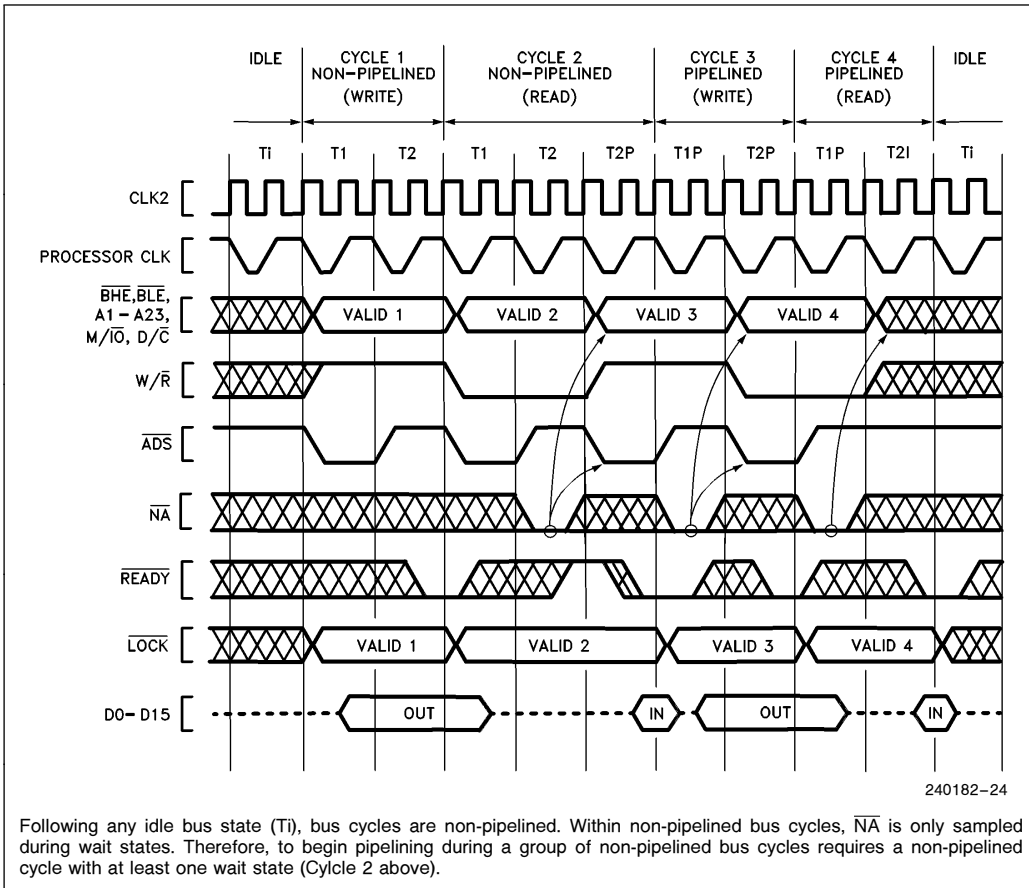
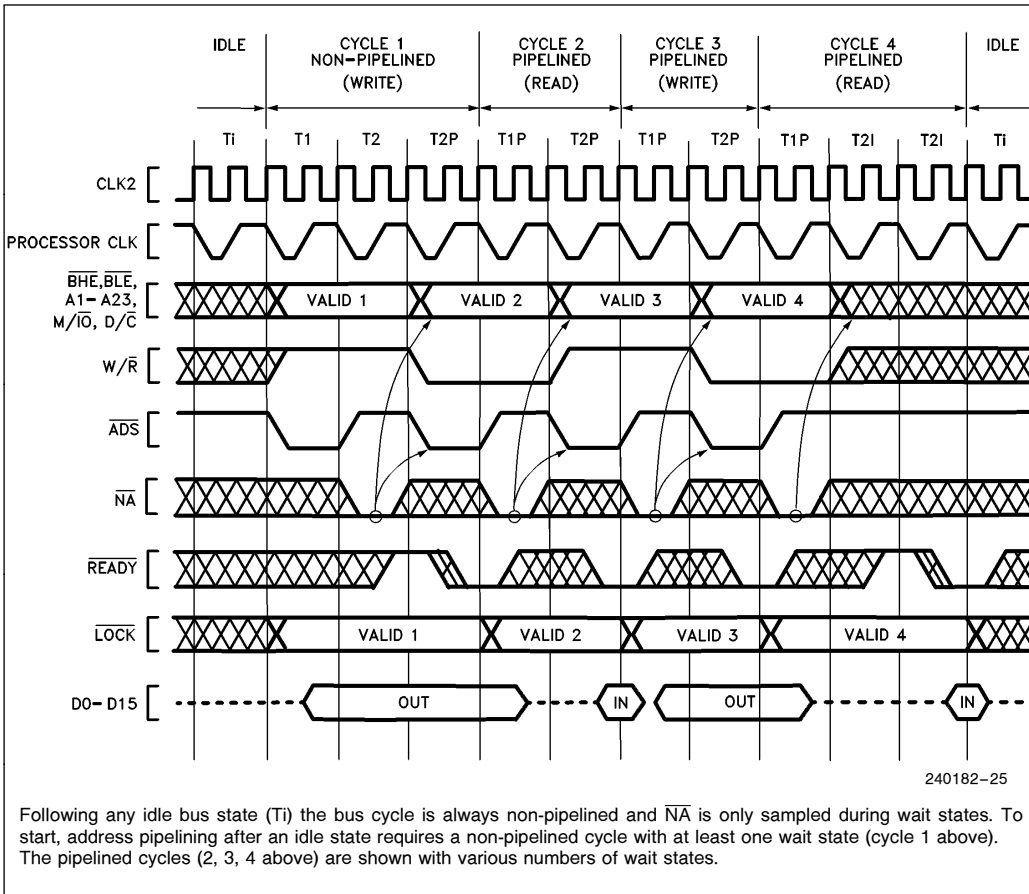

Figure 4.9. Transitioning to Pipelining during Burst of Bus Cycles
Figure 4.10. Fastest Transition to Pipelined Bus Cycle Following Idle Bus State
Once a bus cycle is in progress and the current address has been valid for at least one entire bus state, the $\overline{\text{NA}}$ input is sampled at the end of every phase one until the bus cycle is acknowledged. During non-pipelined bus cycles $\overline{\text{NA}}$ is sampled at the end of phase one in every T_2 . An example is Cycle 2 in Figure 4.9, during which $\overline{\text{NA}}$ is sampled at the end of phase one of every T_2 (it was asserted once during the first T_2 and has no further effect during that bus cycle).
1. The next address and status may appear as early as the bus state after \overline{NA} was sampled active (see Figures 4.9 or 4.10). In that case, state T2P is entered immediately. However, when there is not an internal bus request already pending, the next address and status will not be available immediately after \overline{NA} is asserted and T2I is entered instead of T2P (see Figure 4.11 Cycle 3). Provided the current bus cycle isn't yet acknow-
2. Any address and status which are validated by a pulse on the 80376 \overline{ADS} output will remain stable on the address pins for at least two processor clock periods. The 80376 cannot produce a new address and status more frequently than every two processor clock periods (see Figures 4.9, 4.10 and 4.11).
The transition to pipelined address is shown functionally by Figure 4.10, Cycle 1. Note that Cycle 1 is used to transition into pipelined address timing for the subsequent Cycles 2, 3 and 4, which are pipelined. The \overline{NA} input is asserted at the appropriate time to select address pipelining for Cycles 2, 3 and 4.
Sampling begins in T2 during Cycle 1 in Figure 4.10. Once \overline{NA} is sampled active during the current cycle, the 80376 is free to drive a new address and bus cycle definition on the bus as early as the next bus state. In Figure 4.10, Cycle 1 for example, the next address and status is driven during state T2P. Thus Cycle 1 makes the transition to pipelined timing, since it begins with T1 but ends with T2P. Because the address for Cycle 2 is available before Cycle 2 begins, Cycle 2 is called a pipelined bus cycle, and it begins with T1P. Cycle 2 begins as soon as \overline{READY} asserted terminates Cycle 1.
Examples of transition bus cycles are Figure 4.10, Cycle 1 and Figure 4.9, Cycle 2. Figure 4.10 shows transition during the very first cycle after an idle bus state, which is the fastest possible transition into address pipelining. Figure 4.9, Cycle 2 shows a transition cycle occurring during a burst of bus cycles. In any case, a transition cycle is the same whenever it occurs: it consists at least of T1, T2 (\overline{NA} is asserted at that time), and T2P (provided the 80376 has an internal bus request already pending, which it almost always has). T2P states are repeated if wait states are added to the cycle.
Note that only three states (T1, T2 and T2P) are required in a bus cycle performing a **transition** from non-pipelined into pipelined timing, for example Figure 4.10, Cycle 1. Figure 4.10, Cycles 2, 3 and 4 show that pipelining can be maintained with two-state bus cycles consisting only of T1P and T2P.
Once a pipelined bus cycle is in progress, pipelined timing is maintained for the next cycle by asserting \overline{NA} and detecting that the 80376 enters T2P during the current bus cycle. The current bus cycle must end in state T2P for pipelining to be maintained in the next cycle. T2P is identified by the assertion of \overline{ADS} . Figures 4.9 and 4.10 however, each show